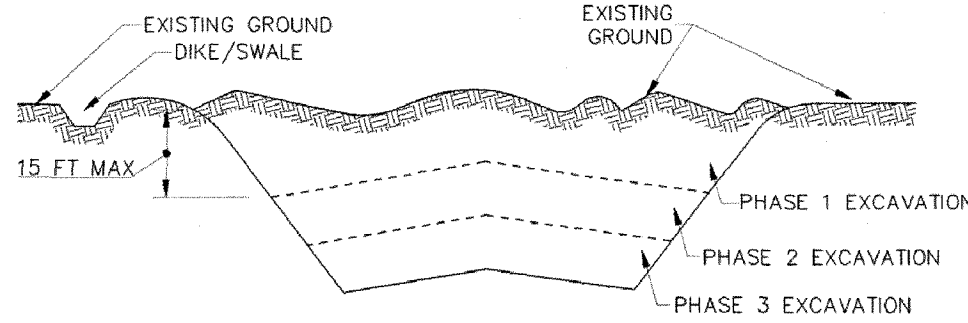

Figure B.1: Incremental Stabilization - Cut
2. Construction sequence example (Refer to Figure B.1):